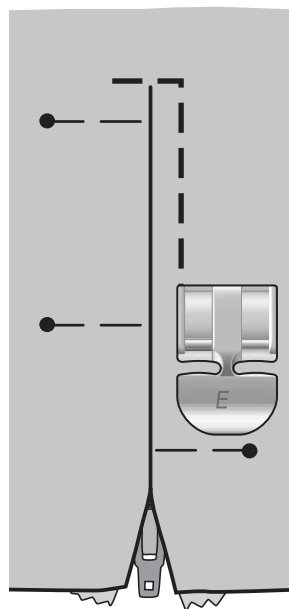

Fig. 2
4. Begin stitching across the bottom, turn the fabric and stitch the right side of the zipper to the top (see fig. 2).